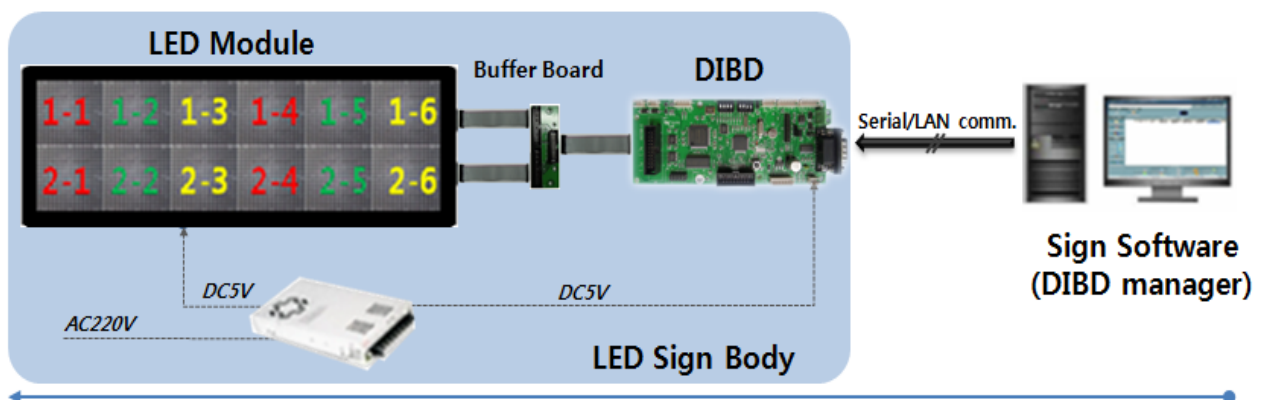

Fig. 3 Data Flow of LED Sign System
- D. Check whether the image is naturally displayed on the LED Sign from right to left direction from the front view(See **Fig.3** below).